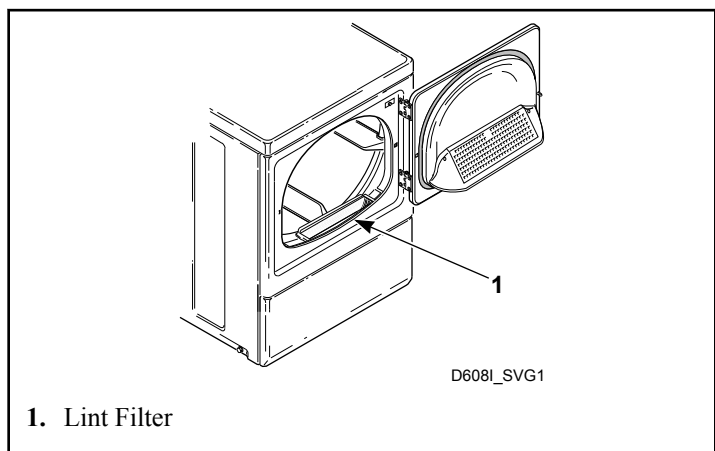

Figure 28
**CLEAN THE LINT FILTER BEFORE DRYING EACH LOAD.** (Refer to *Figure 28* for lint filter location.) Cleaning the lint filter is important because a layer or pad of lint on the filter will block the flow of air through the dryer, thus reducing the efficiency of the dryer. The clothes will take longer to dry and energy will be wasted.